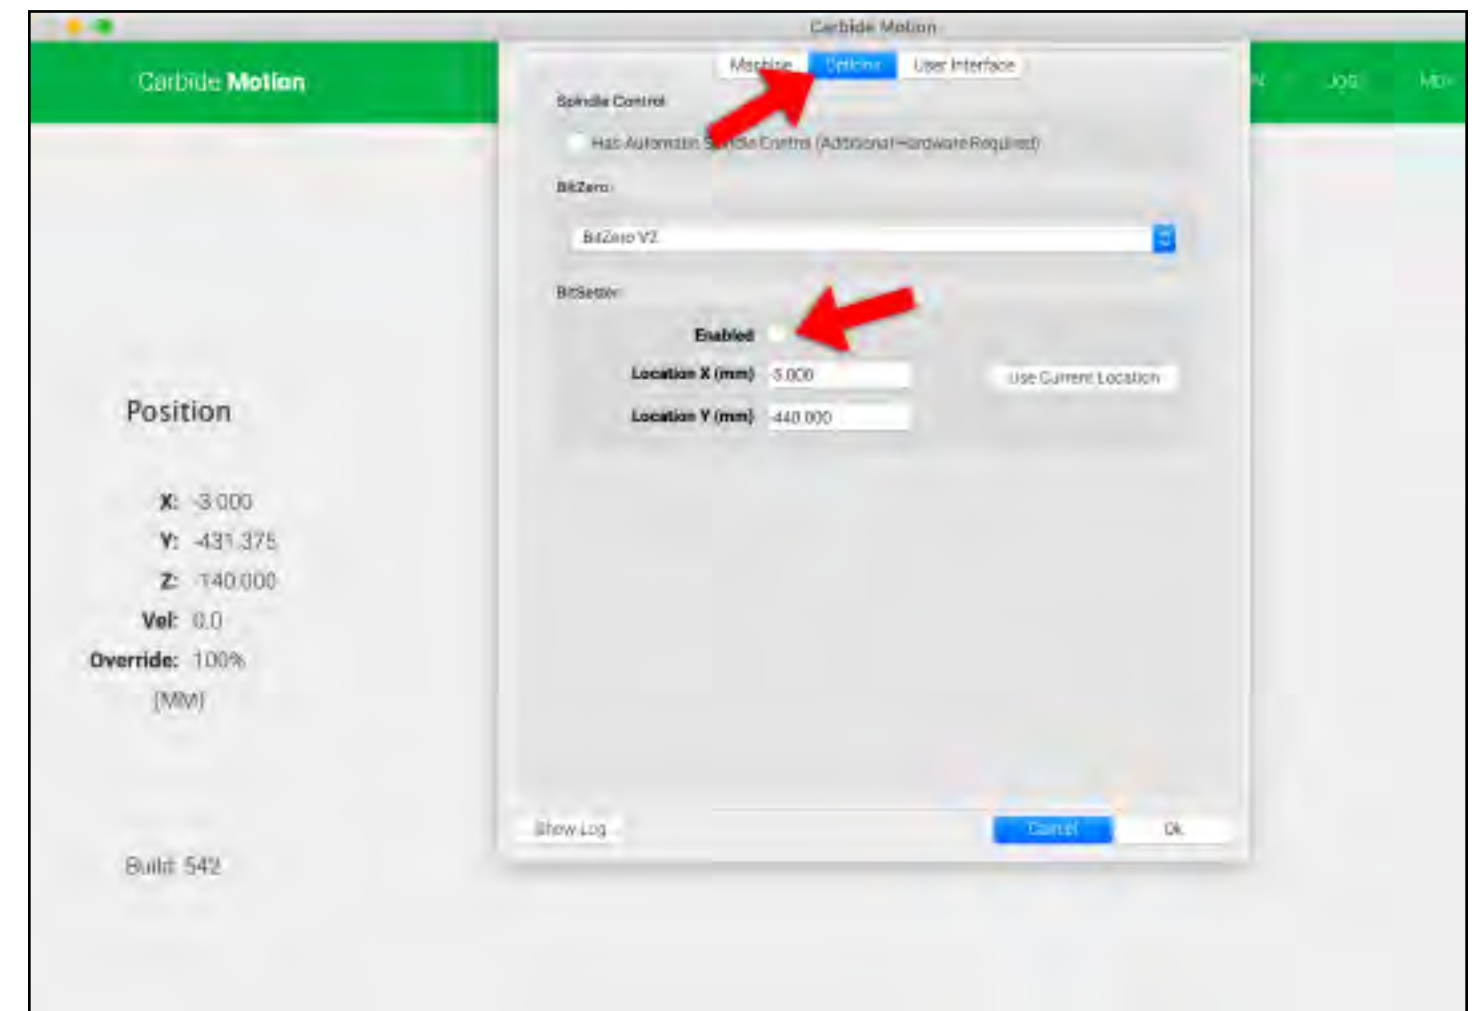

Figure 10-5
3. In the *BitSetter* section, make sure the **Enabled** check box is NOT checked. See **Fig. 10-5**.